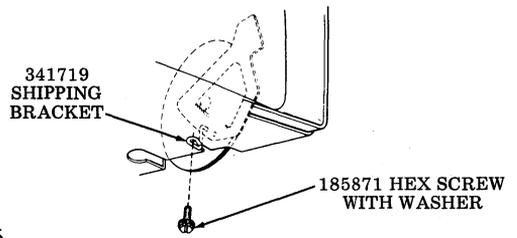

Fig. 5
- Step 2. Immobilize tube tilt mechanism with 341719 shipping bracket as illustrated in Fig. 5.